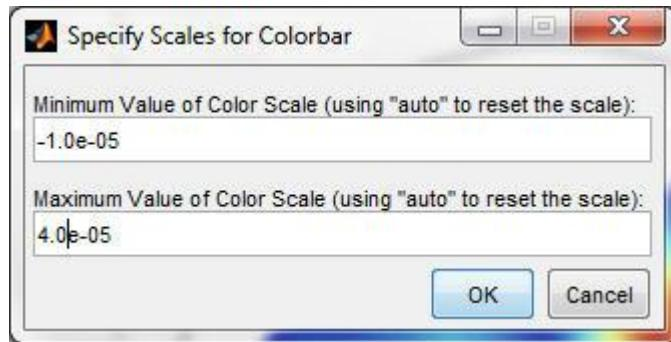

Figure 5-61. An example of changing the color scale.
Step 2: Enter the desired minimum and maximum values for the color scale of the map. An example is shown in Figure 5-61.